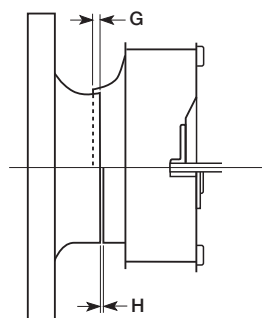

Figure 9
- 1. Check all fasteners for tightness.** The wheel should rotate freely and be aligned as shown in Figure 9. Wheel position is preset and the unit is tested at the factory. Movement may occur during shipment, and realignment may be necessary. Centering can be accomplished by loosening the bolts holding the inlet (venturi) panel and repositioning. Wheel and inlet cone overlap can be adjusted by loosening the setscrews in the wheel and moving the wheel to the desired position.